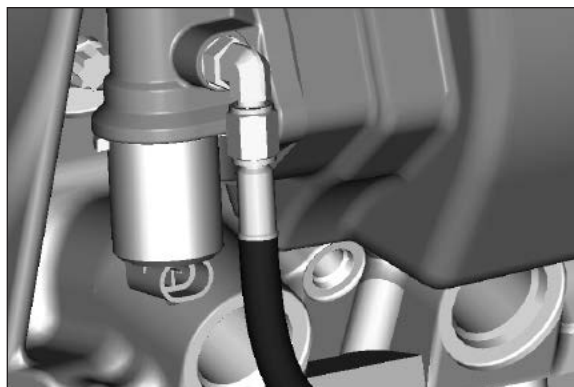

Figure 36
9. Securely attach the high pressure line to the valve. Tighten hose end fitting 2 flats from finger tight (**Fig. 36**). If Wet Spline option connect hose to tee fitting on the flange. Not available for the 288 & 287 Series Installations.